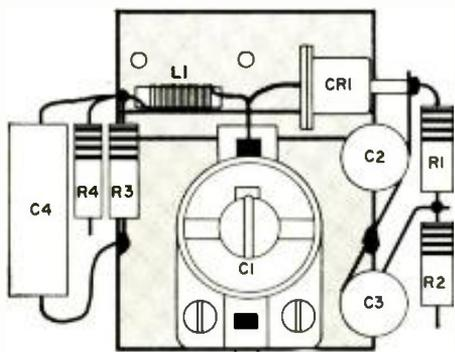

Fig. 4. How components are laid out and wired to fit on compact sub-chassis.
plate identified as *E* in Fig. 3B. This spot should be tinned first, as should point *F*, on the other side of the plate. For position, refer to Fig. 4, as you should be doing for the following steps.
16. Take a length of black hook-up wire and solder one end to the junction of  $R_1$ ,  $R_2$ , and  $C_3$ . This lead may be omitted if defeat switch *S*, will not be used. The unit is now complete. (To support the three leads, the author added an extra touch. A small loop of stiff wire was twisted around the red lead, and the loop was soldered to point *E*. Another loop was twisted around the insulated green and black leads. This loop was soldered to point *F*.) Check the finished sub-chassis against Fig. 4.  $C_1$ , on one side, and  $R_1$  and  $R_2$ , on the other side, may be dressed closer to the metal plate than shown in Fig. 4, where these components have been spread out for clarity.